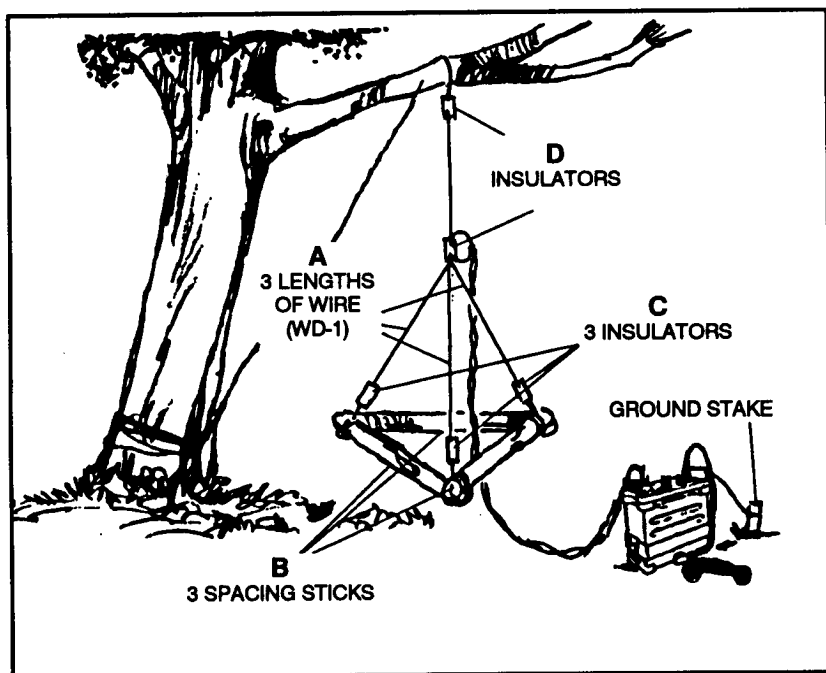

Figure 7-13. Expedient 292-type antenna.
(1) **Expedient 292-type antenna.** The expedient 292-type antenna was developed for use in the jungle and, if used properly, can increase the team's ability to communicate. In its entirety, the antenna is bulky, heavy, and not acceptable for sniper team operations. The team can, however, carry only the mast head and antenna sections, mounting these on wood poles or hanging them from trees; or, the team can make a complete expedient 292-type antenna (Figure 7-13, page 7-18), using WD-1, wire, and other readily available material. The team can also use almost any plastic, glass, or rubber objects for insulators. Dry wood is acceptable when nothing else is available. (See Figure 7-2 for types of insulators that may be used.) The following describes how to make this antenna:
(a) Use the quick-reference table (Table 7-2, page 7-19) to determine the length of the elements (one radiating and three ground planes) for the frequency that will be used. Cut these elements (A, Figure 7-13, page 7-18) from WD-1 field wire (or similar wire). Cut spacing sticks (B, Figure 7-13) the same length. Place the ends of the sticks together to form a triangle and tie the ends with wire, tape, or rope. Attach an insulator to each corner. Attach a ground-plane wire to each insulator. Bring the other ends of the ground-plane wires together, attach them to an insulator (C, Figure 7-13, page 7-18), and tie securely. Strip about 3 inches of insulation from each wire and twist them together.
(b) Tie one end of the radiating element wire to the other side of insulator C and the other end to another insulator (D, Figure 7-13). Strip about 3 inches of insulation from the radiating element at insulator C.